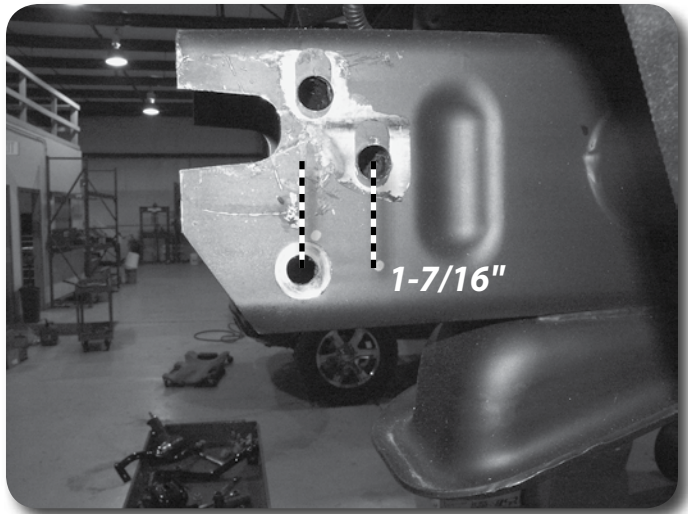

Figure 15
35. Locate the factory tow hook mount holes in the front of the frame rails. The driver's side of each frame rail will only have one tow hook hole. Measure straight back from the center of the existing hole 1-7/16" and mark. **Figure 15** Drill a 1/2" to 9/16" hole at the mark (one hole per frame rail).